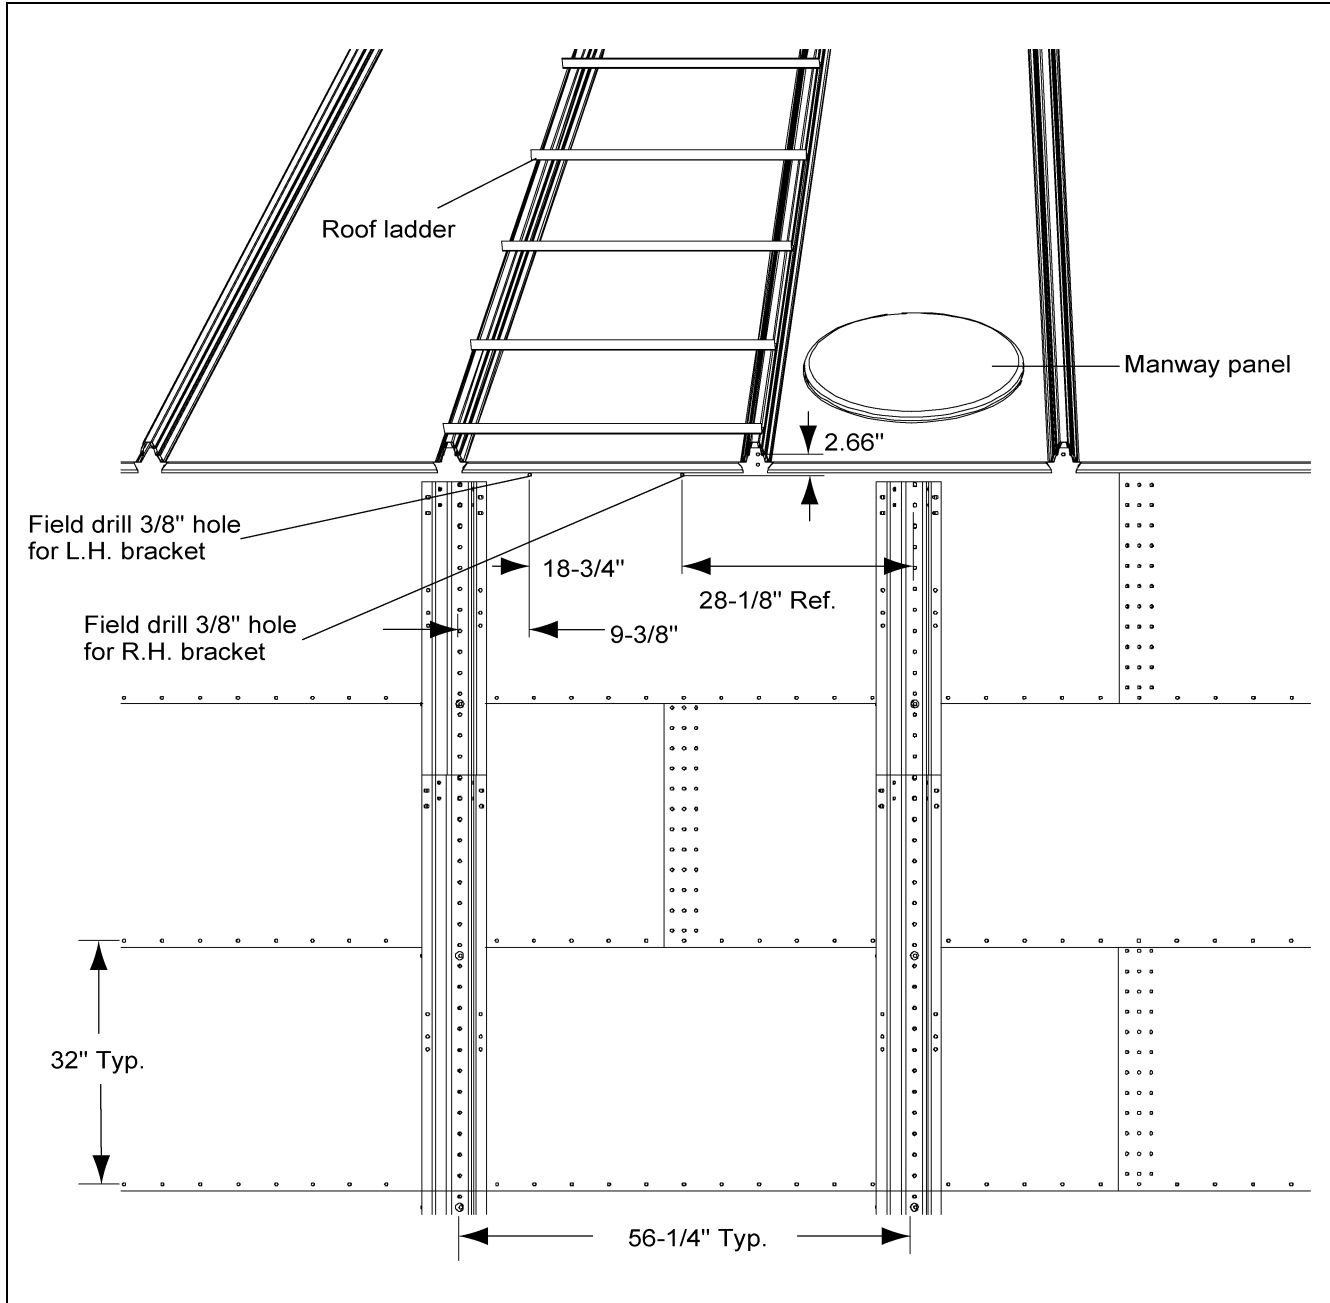

Figure 5B
The starter brackets must be located directly below the roof ladder. Before the starter brackets can be installed, two (2) 3/8" holes must be field drilled 2.66" below and directly in line with the top row of pre-punched horizontal holes. The first hole, required for the left-hand starter bracket, must be located 9-3/8" from the center of the stiffener to the center of the hole as shown in Figure 5B. The second hole, required for the right-hand bracket, must be located 18-3/4" from the center of the first hole. Refer to Figure 5B for the proper location of the two (2) 3/8" field drilled holes required to install the starter brackets.